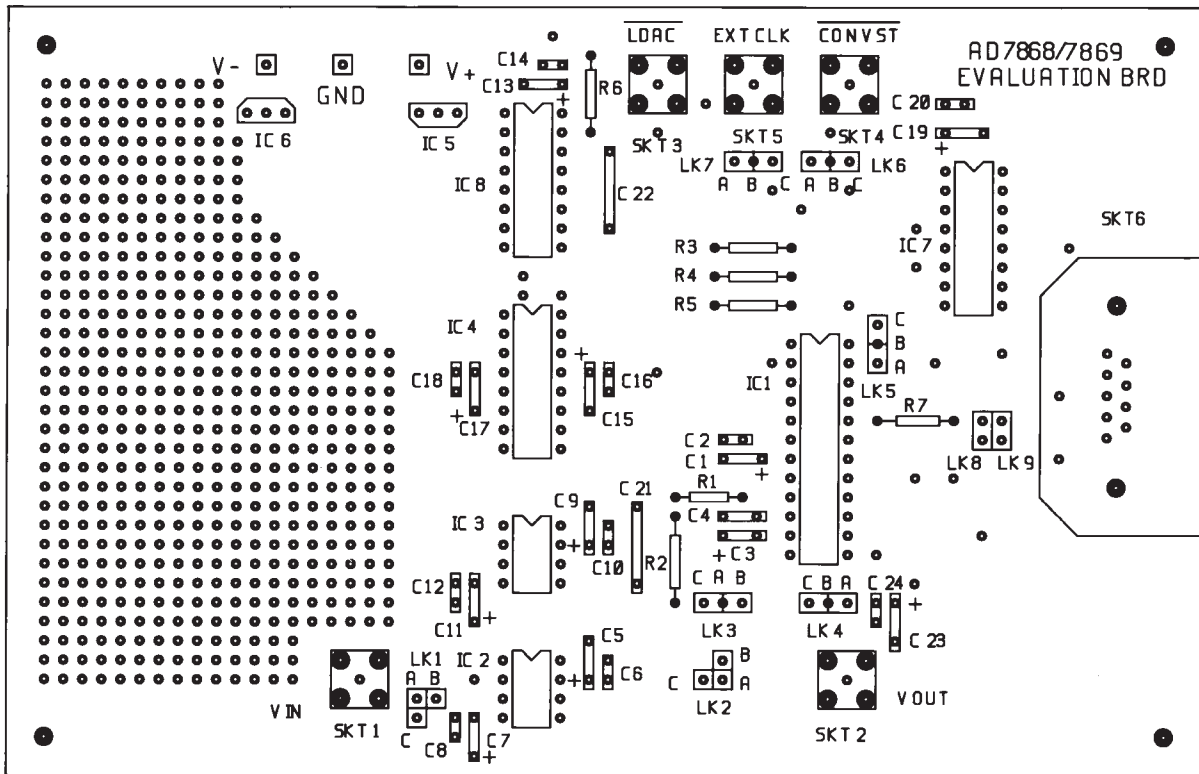

Figure 21. Silkscreen for the Circuit Diagram of Figure 19
Figure 19 shows an analog I/O board based on the AD7869. The corresponding printed circuit (PC) board layout and silkscreen are shown in Figures 21 to 23.
The PC board requires two analog power supplies and one 5 V digital supply. Connections to the analog supply are made directly to the PC board as shown on the silkscreen in Figure 21. The connections are labeled V_{+} and V_{-} , and the range for both of these supplies is 12 V to 15 V. Connections to the 5 V digital supply are made through the D-type connector SKT6. The ± 5 V analog supply required by the AD7869 is generated from two voltage regulators on the V_{+} and V_{-} supplies.